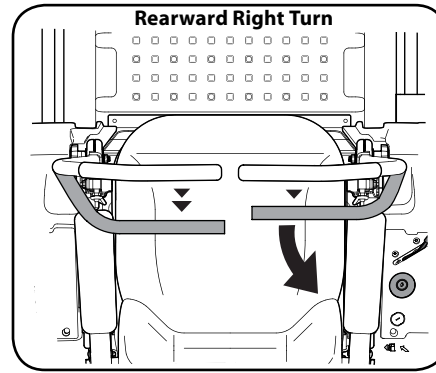

Figure 3-7
2. To turn to the right while traveling in reverse, move the right drive control lever forward of the left lever. See Figure 3-7.